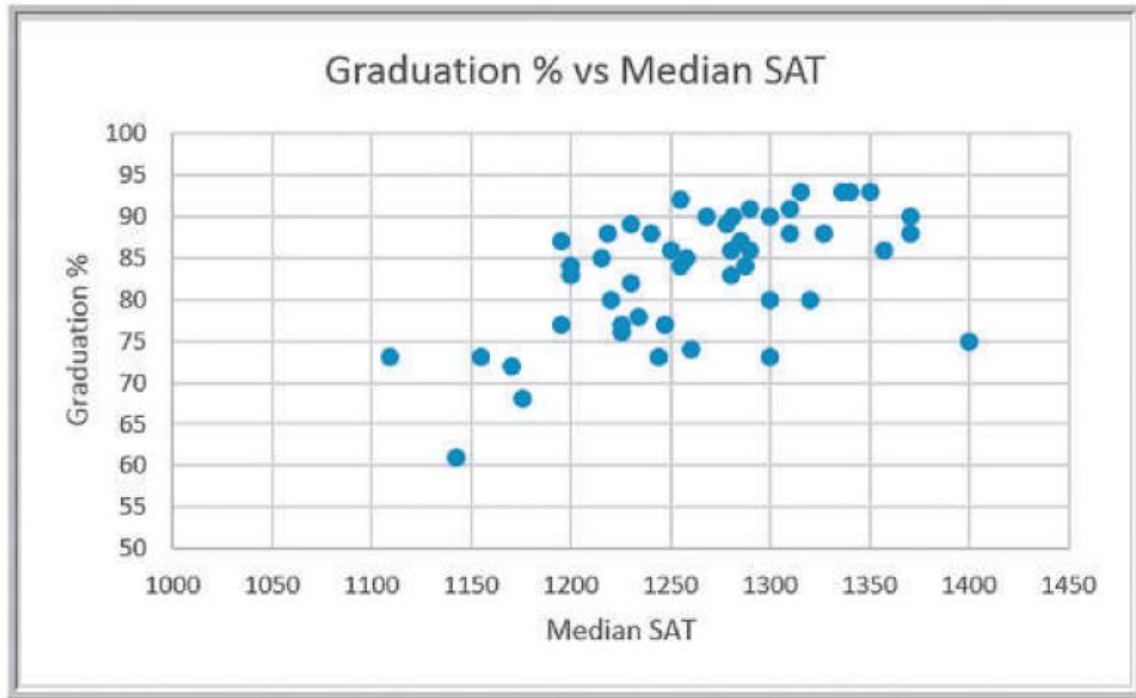

Figure 28: Scatter Diagram showing Positive Covariance (Evans, 2014)
5. Scatter Diagram shows the strength of linear association between two variables and the sign of the covariance. (Figure 28)
2. Figure 29 shows how to obtain the Sample Covariance; which is reflected in Figure 28.